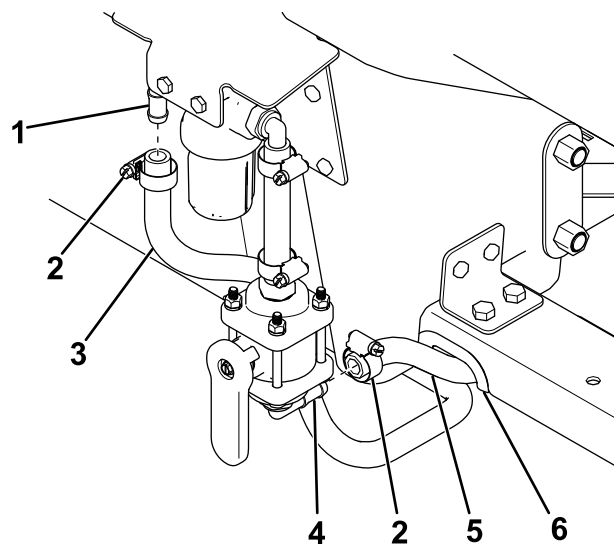

Figure 36
6. Secure the 1.2 m (48 inch) hose from the pump to the 90° filter hose fitting with a hose clamp (Figure 36).
7. Secure the free end of the tank hose to the 90° ball valve hose fitting with a hose clamp (Figure 36).
8. Slide 1 of the edge covers onto the frame rail as shown in Figure 36.